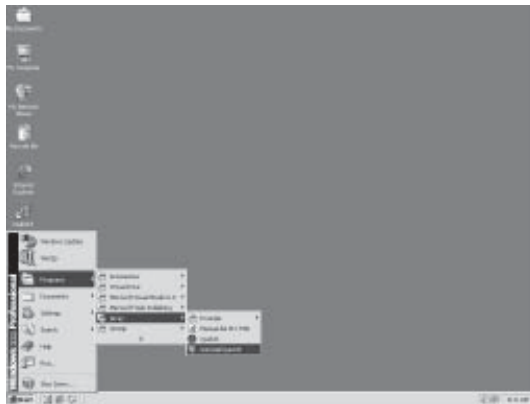

Fig 2.10 Uninstall window
Click **UNINSTALL** under the said program folder with the left mouse button, as shown in Fig. 2.10;
2.4 After selecting the ARRAY Quick II program folder in the said dialogue box, click **Add/Remove Program** and a dialogue box appears asking if you want to remove the program. Click **Yes** and the Remove window, as shown in Fig.2.10, appears.